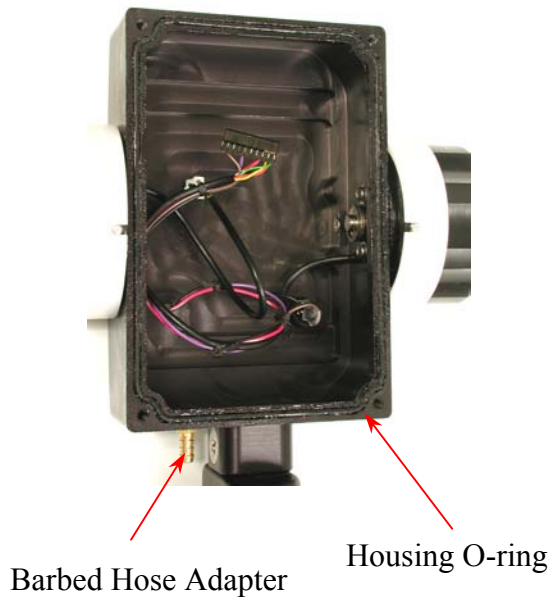

fig. 1a.
- d. Check the 4 x 6-32 cover screws and the Camera Run switch cover seal for tightness. See fig. 1a, b.